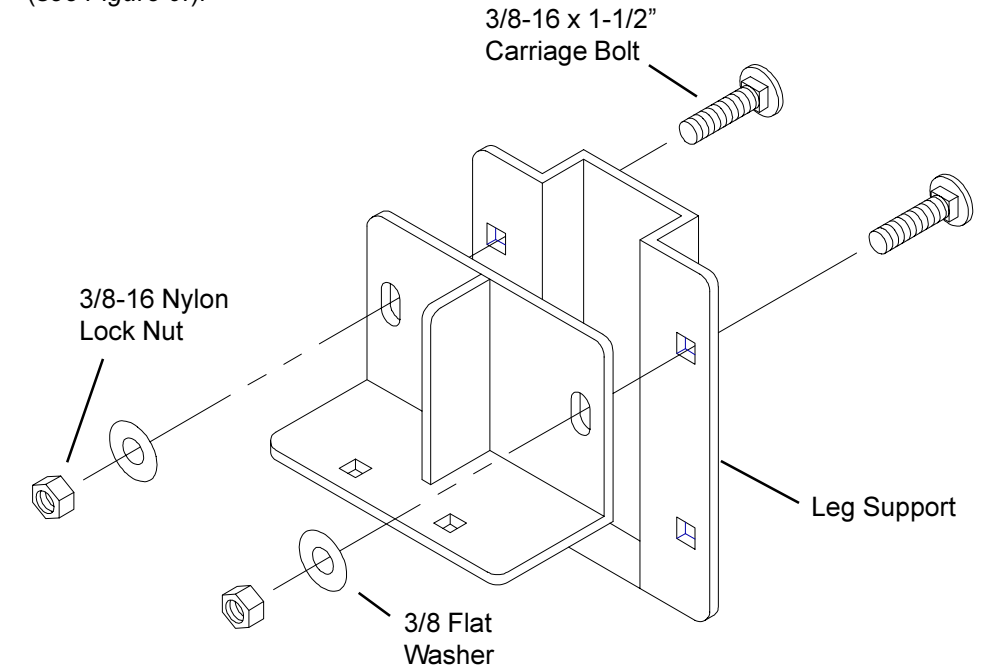
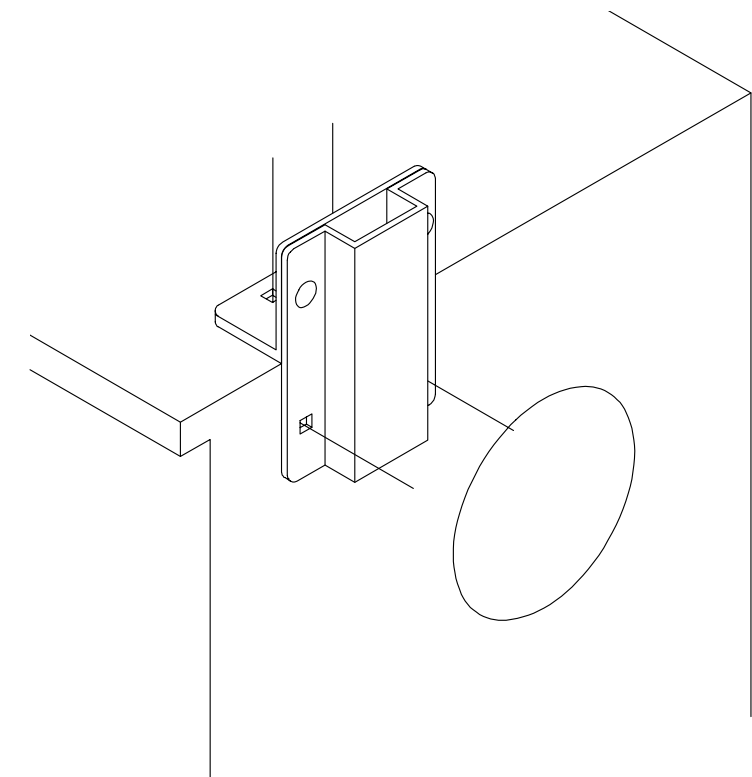

**Figure 5. Lower Bracket - used for marking service body top and rear end panel**
**Figure 6. Option 1 Assembly**
**Option 1 Installation** - Place a Lower Bracket at the top of the rear end panel **inside** the service body, and in position side to side. Mark the centers of the four obround holes (see Figure 5.). Remove the Lower Bracket, and using a square, draw a line down 6" from the centers of the marks on the rear panel. Measure down 3-3/4" from the rear panel marks, and mark the lines. Drill the six marks with a 7/32" drill bit. Re-drill the rear panel holes with a 7/16" drill bit. Re-drill the top holes with a 1/2" drill bit. Repeat this procedure at the other side of the service body. Loosely assemble a Leg Support, Lower Bracket and a Mounting Plate at each rear location (see Figure 6.).